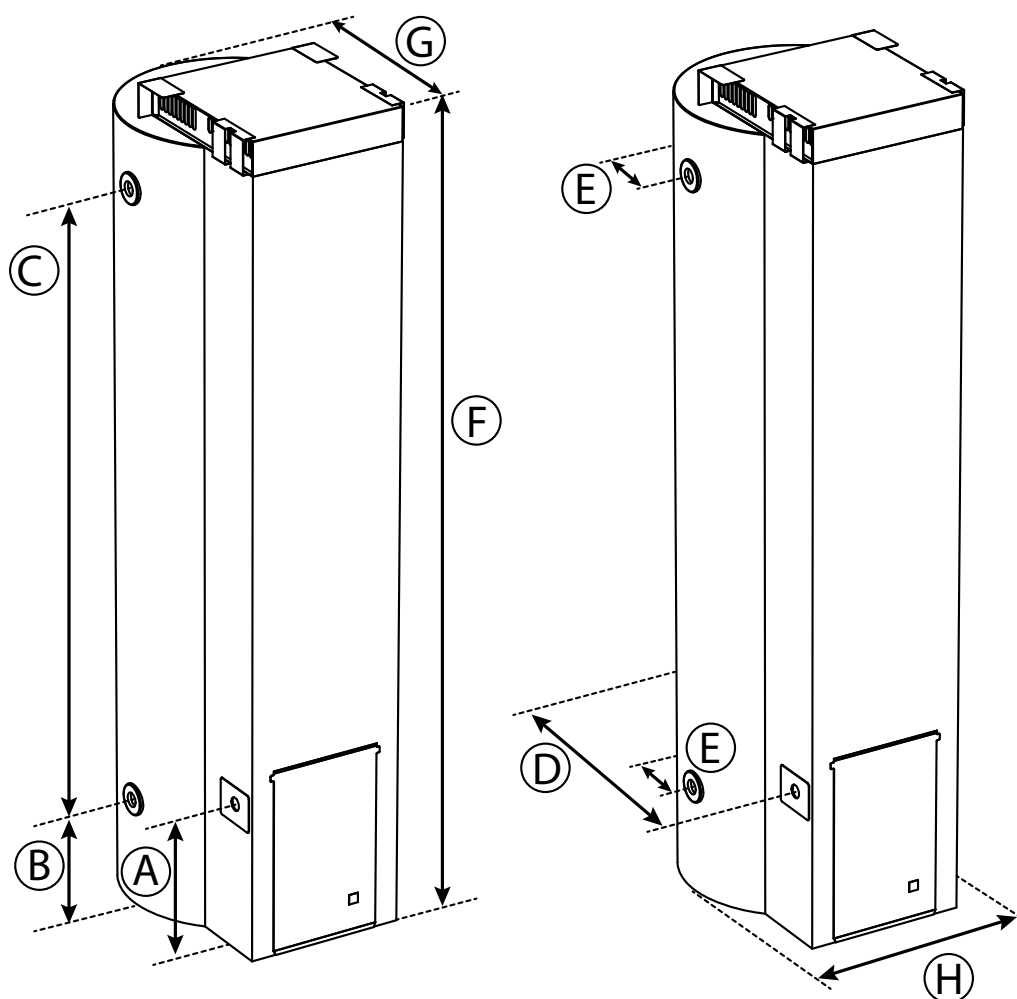

Figure 3 - Appliance Dimensions
Refer to the Data Label for correct gas type. Gas piping should be connected through the side of the case (refer to Appliance Dimension Figure 3).
4. Depress the knob fully (until disappears below housing) and after thirty (30) seconds, whilst keeping the knob depressed, repeatedly press the igniter button for up to forty (40) seconds until the ✱ pilot flame ignites. (Figure 3).
5. Keep the knob depressed for twenty (20) seconds after the pilot flame lights (Figure 3). The pilot flame can be observed when on.
7. If pilot has failed to light or has not remained alight, turn gas control knob to "●" (Off). Wait Five (5) minutes for the escape of unburnt gas, then begin again at step 3. (Figure 3 - "Lighting Instructions" on page 9).